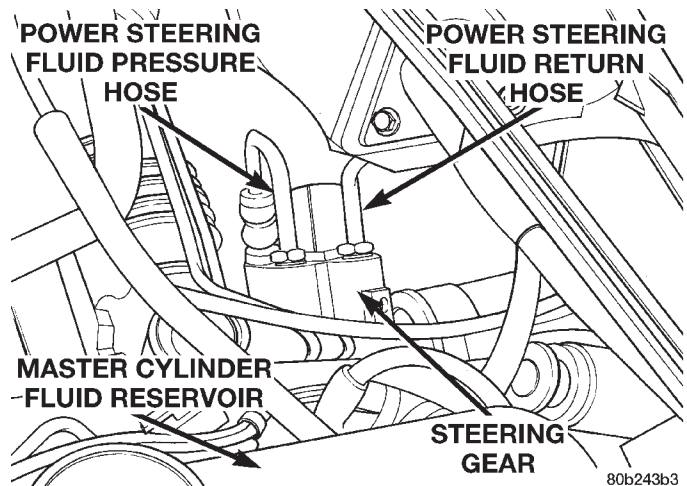

Fig. 11 Power Steering Hose Connections At Steering Gear
(13) Using a siphon pump, remove as much power steering fluid as possible from the power steering fluid reservoir.
(14) Remove the power steering fluid pressure hose and return hose (Fig. 11) from the steering gear.